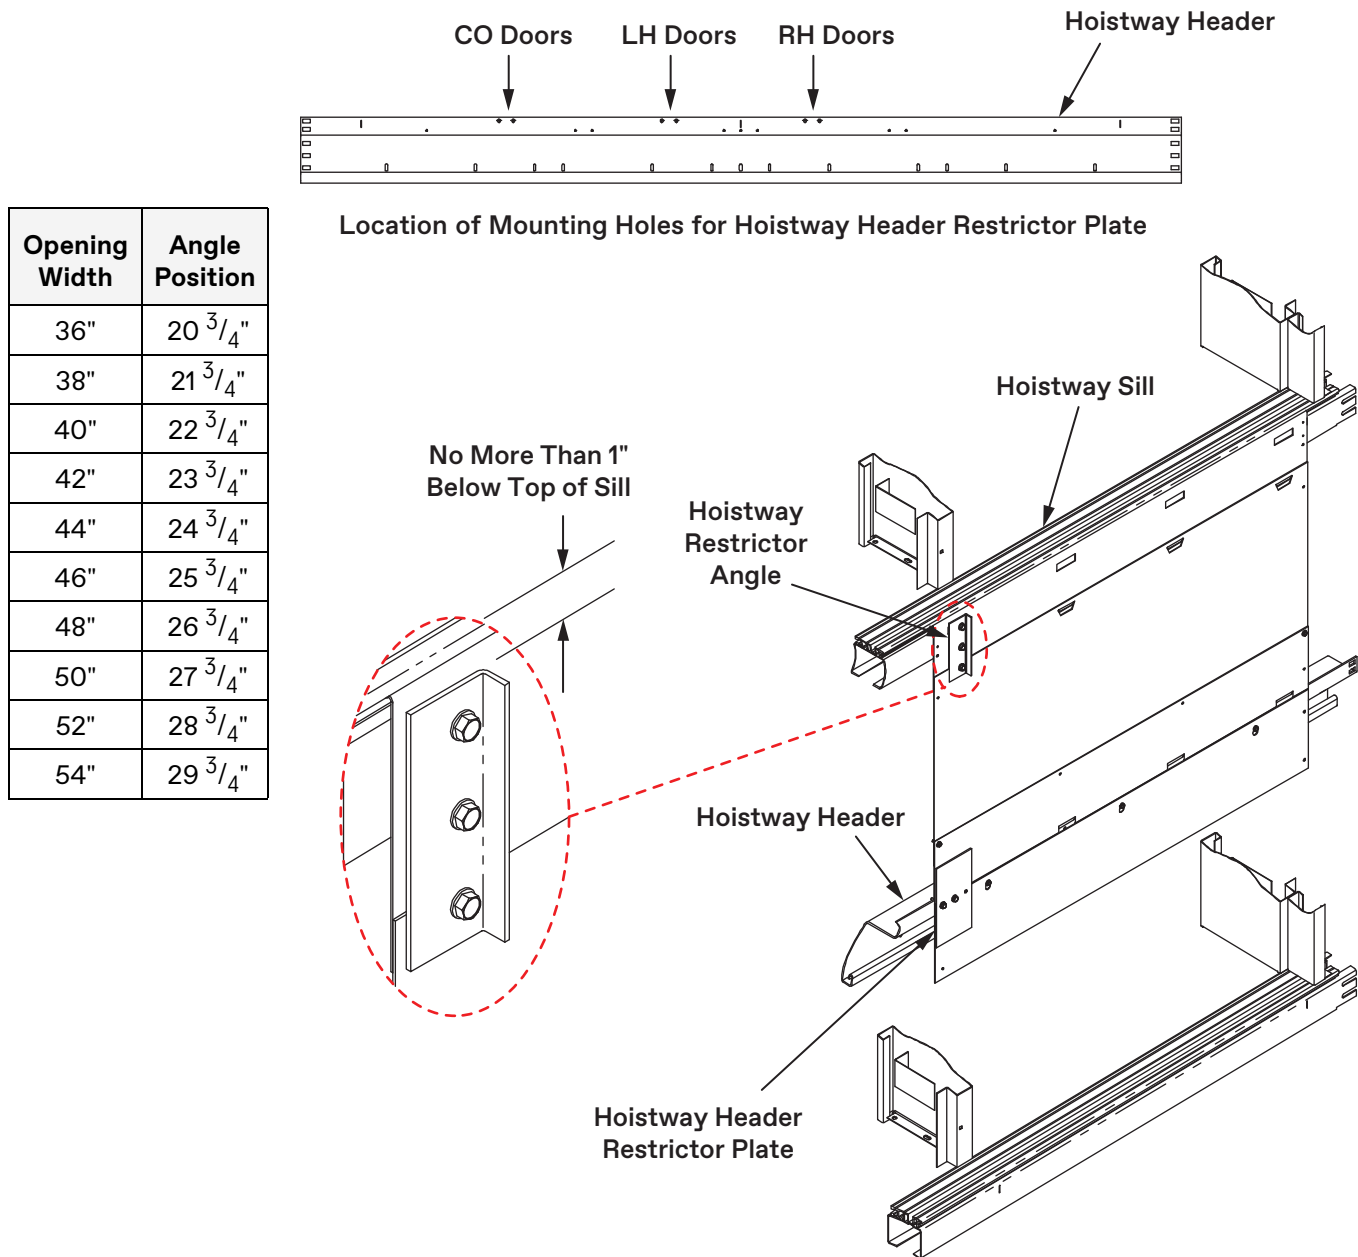

Figure 34 - Hoistway Restrictor Angle Positions
1. Mark the position of the hoistway restrictor angle. See Figure 34.